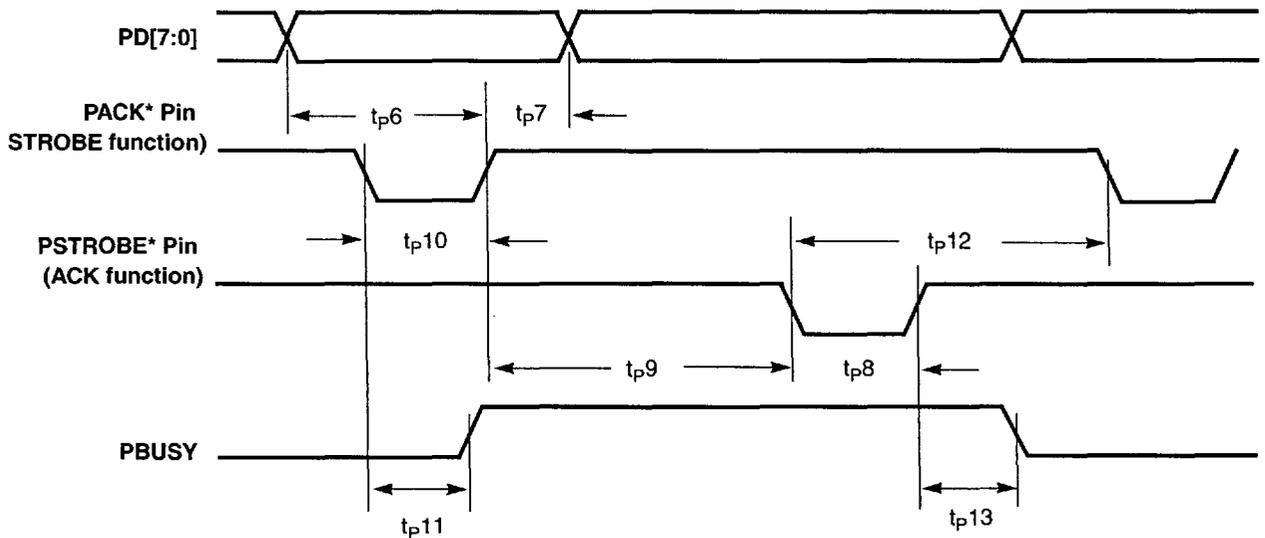

Figure 6-10. Parallel Port Receive Timing
**Receive Timing (see Figure 6-10.)**